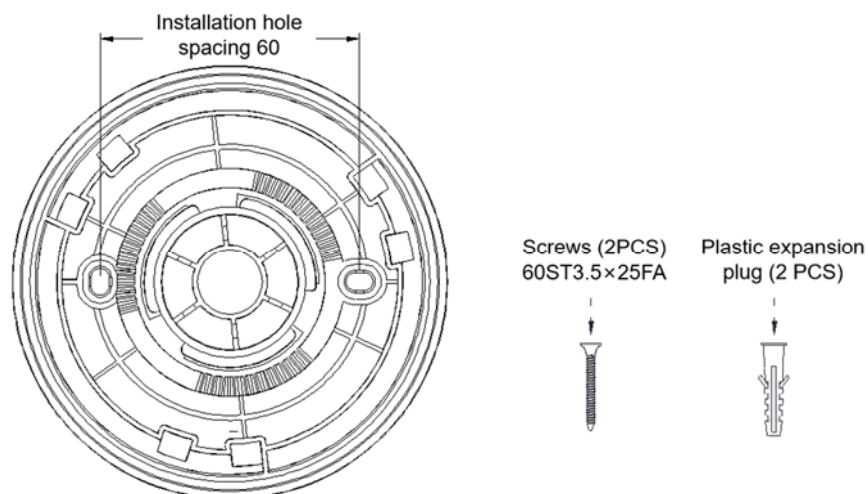
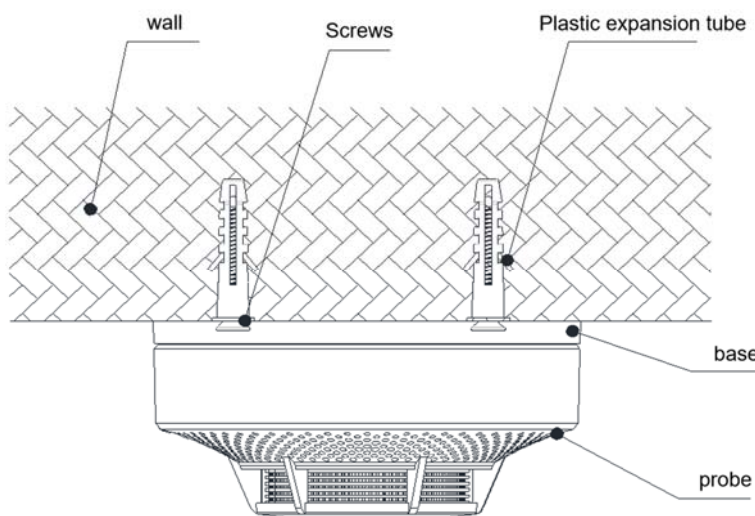

Figure 2 Screw dimensions of the alarm base and fixing accessories
Figure 4 Alarm installation diagram
2. Diagram of alarm base size, as shown in Figure 2 (unit: mm)
As shown in Figure 4, fix the alarm at the bottom of the roof with screws, with the installation holes spaced as shown in Figure 2. Attach the alarm to the base slot, ensuring that the alarm fits perfectly into the base, then rotate it clockwise until it is securely locked in place